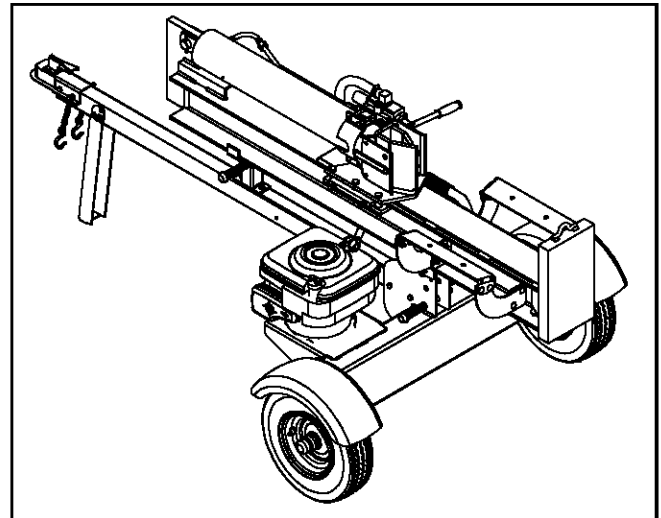

Figure 8
- To lock the beam in the horizontal position, pull out on the horizontal beam lock and pivot it to secure the beam. See Figure 8.